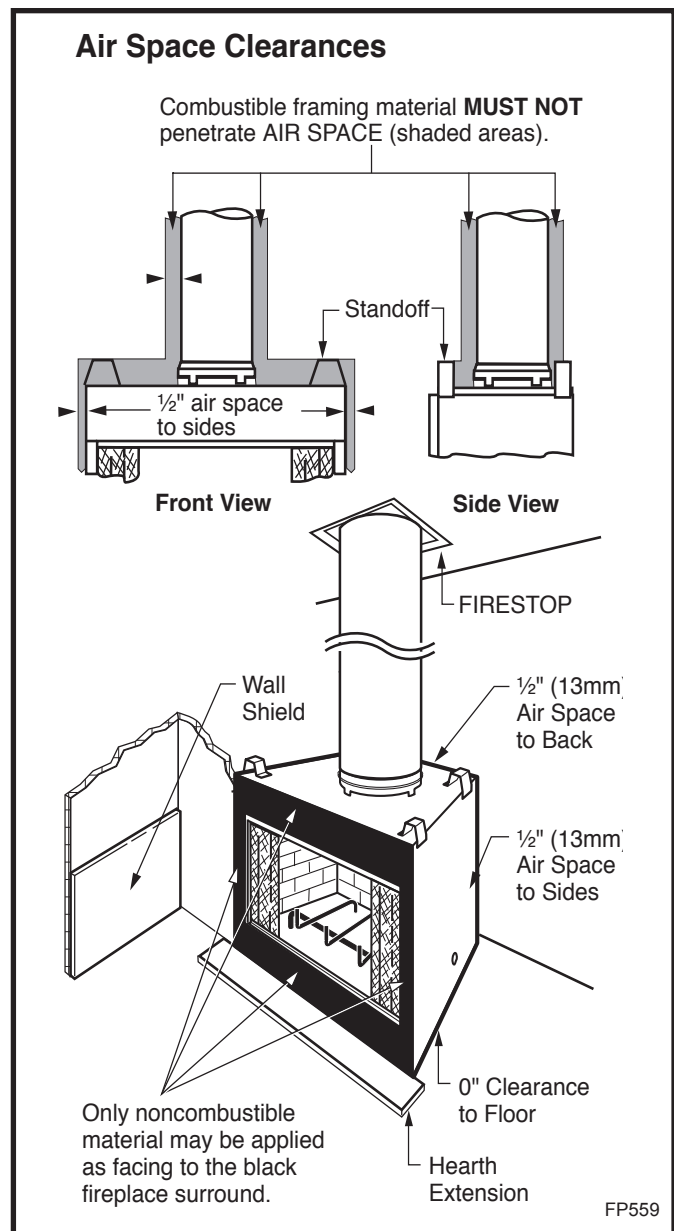
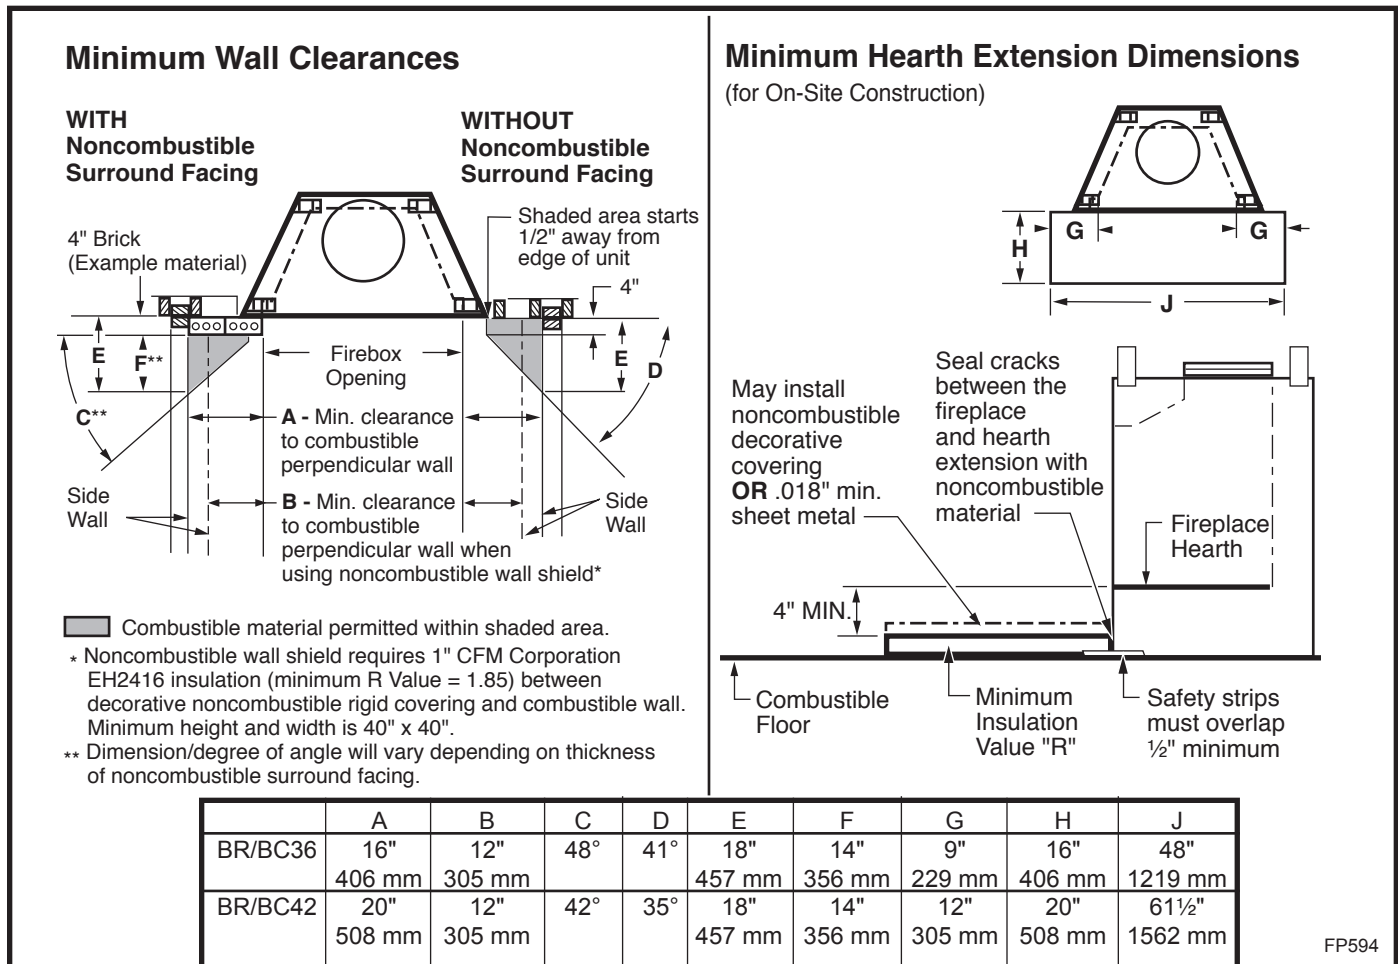

Fig. 20 Minimum clearances to combustibles.
Fig. 23 Combustible side wall protection and hearth extension dimensions.
**CAUTION:** All joints between the finished wall and the fireplace surround (top/sides) must be sealed with noncombustible material to prevent cold air leakage into the room. Only noncombustible material may be applied to the facing of the fireplace surround. (Black painted area) (Fig. 20)
Often a decorative surround or vertical portion of the mantel is desired. If this is constructed of any combustible material it must be within the safe zone indicated in Figure 23.
Adjacent combustible side walls that are within minimum dimensions shown in Figure 23 of the fireplace opening must be protected with CFM Corporation Wall Shield Model SP40 or a specifically built wall shield described in Figure 20.
The special wall shield design described in Figure 20 is an alternate method of adding protection to side walls and can be used in place of the SP40 with the same wall clearances specified for the SP40. Rt must =1.85 minimum.
A hearth extension is required to protect a combustible floor in front of the fireplace. Refer to Figure 23 for minimum dimensions and mounting detail.
The hearth extension described in Figure 23 must be a durable noncombustible material with a minimum (total) Rt value of 1.09; see Figure 24 for examples. The overall height (above a combustible floor), depth and width must be as indicated, with the extension centered to the fireplace opening.
The top of insulation must be covered with a noncombustible decorative covering **or** a piece of .018" minimum sheet metal, to protect hearth extension material. (Fig. 23)
Secure the hearth extension to the floor to prevent shifting, using trim molding or other similar means at three (3) outer edges. Seal crack between the fireplace hearth and hearth extension with a noncombustible material. (Figs. 23 and 25)
**WARNING: HEARTH EXTENSION MUST BE INSTALLED IN ACCORDANCE WITH FIGURE 23 AND MUST NOT COVER THE BOTTOM FRONT OPENING OF THE CIRCULATING MODEL.**